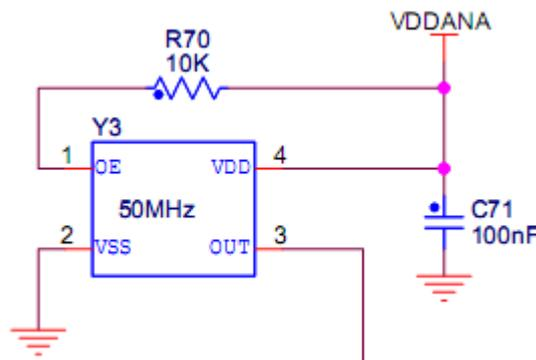

Figure 2-4
(3) RMII mode chooses 50MHz clock. Circuit is shown in figure 2-4: